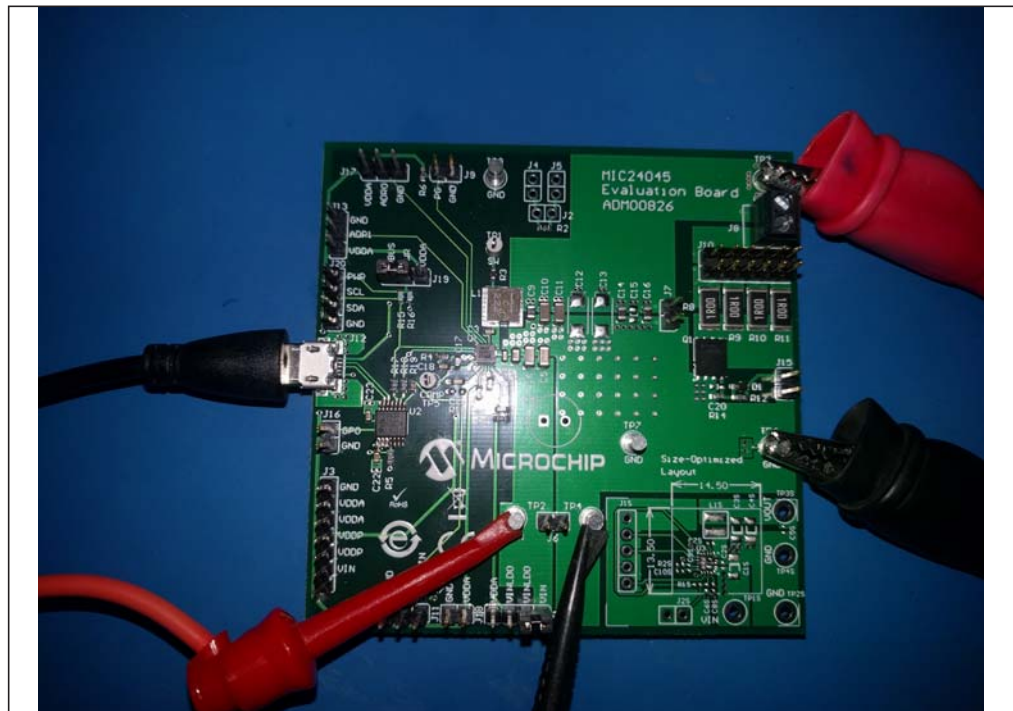

FIGURE 2-1: MIC24045 Evaluation Board.
4. Connect the USB to Micro USB Cable (see Figure 2-1).